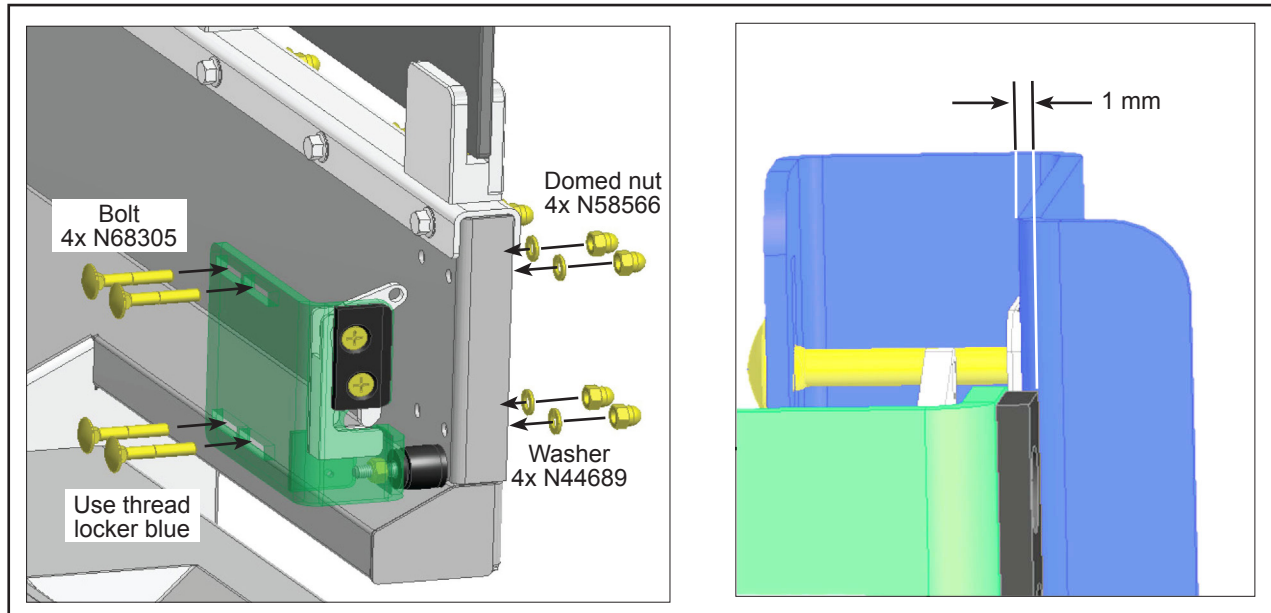

Figure 8 - Final Installation and Adjustment
- 1.7. Mount this assembly on the door as indicated in Figure 8; use medium grade thread locker such as Loctite blue or an equivalent. Align both parts of the latch (the one on the door and on the handrail), then tighten to secure.